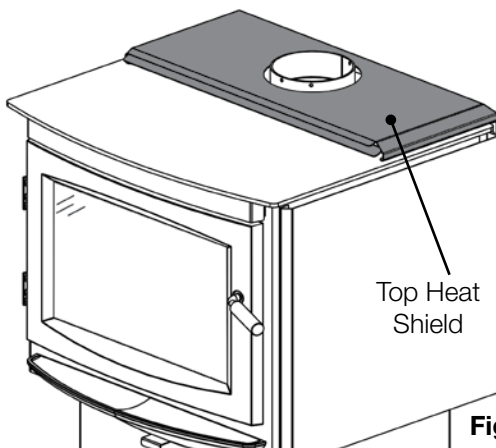

Fig. 2-3
* The top heat shield (T.H.S.) may be removed if desired (**Fig. 2-3**); however, this will increase clearances to combustibles. **Please read the above table carefully.**
* The top heat shield (T.H.S) may be removed if desired (**Fig. 2-3, previous page**); however, this will increase clearances to combustibles. **Please read the above table carefully.**